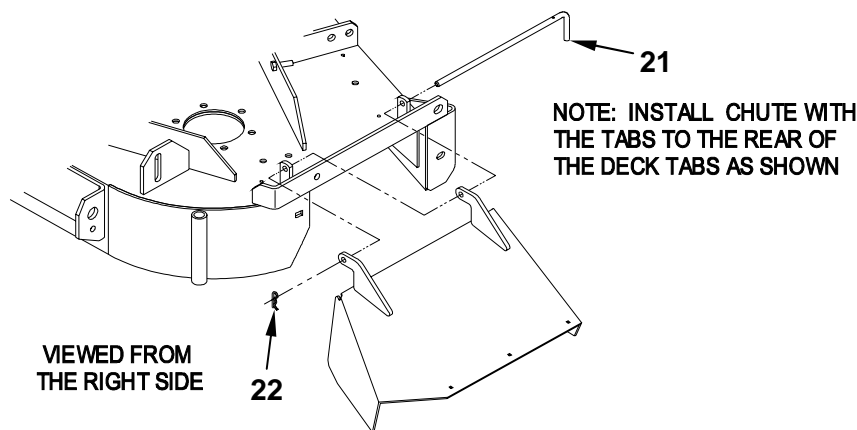

FIGURE 13
- 4.3.6 Install the discharge chute using the chute pivot pin and hairpin (see figure 13).